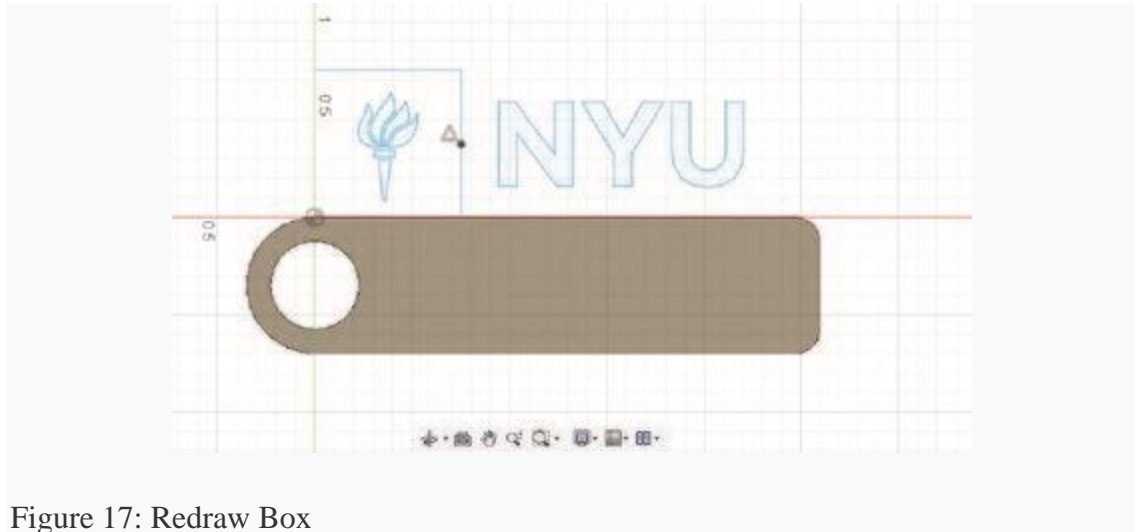

Figure 17: Redraw Box
- viii. Redraw the 2 sides of the box we deleted using the line tool in the “Sketch” section of the toolbar. (Figure 17)